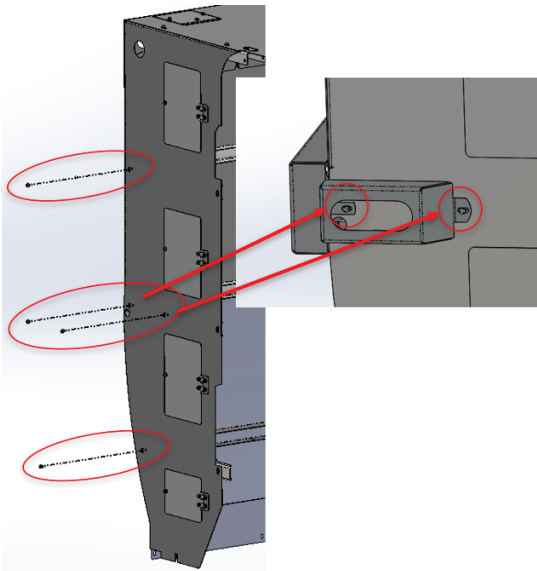

Figure 10
4. If side bracket for light bar exists, first remove the exterior bolt on the right to then gain access to the interior bolt on the left (Figure 10). Remove light housing. Retain all components.
5. Remove and retain exterior fasteners that secure the old cover panel to the tailgate (Figure 10 side view as shown for illustrative purposes only).